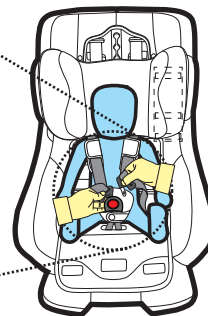

Figure 3
- Step 3:** Place the child in the restraint with legs either side of the buckle, place the harness over the shoulders and hips (refer Figure 3).